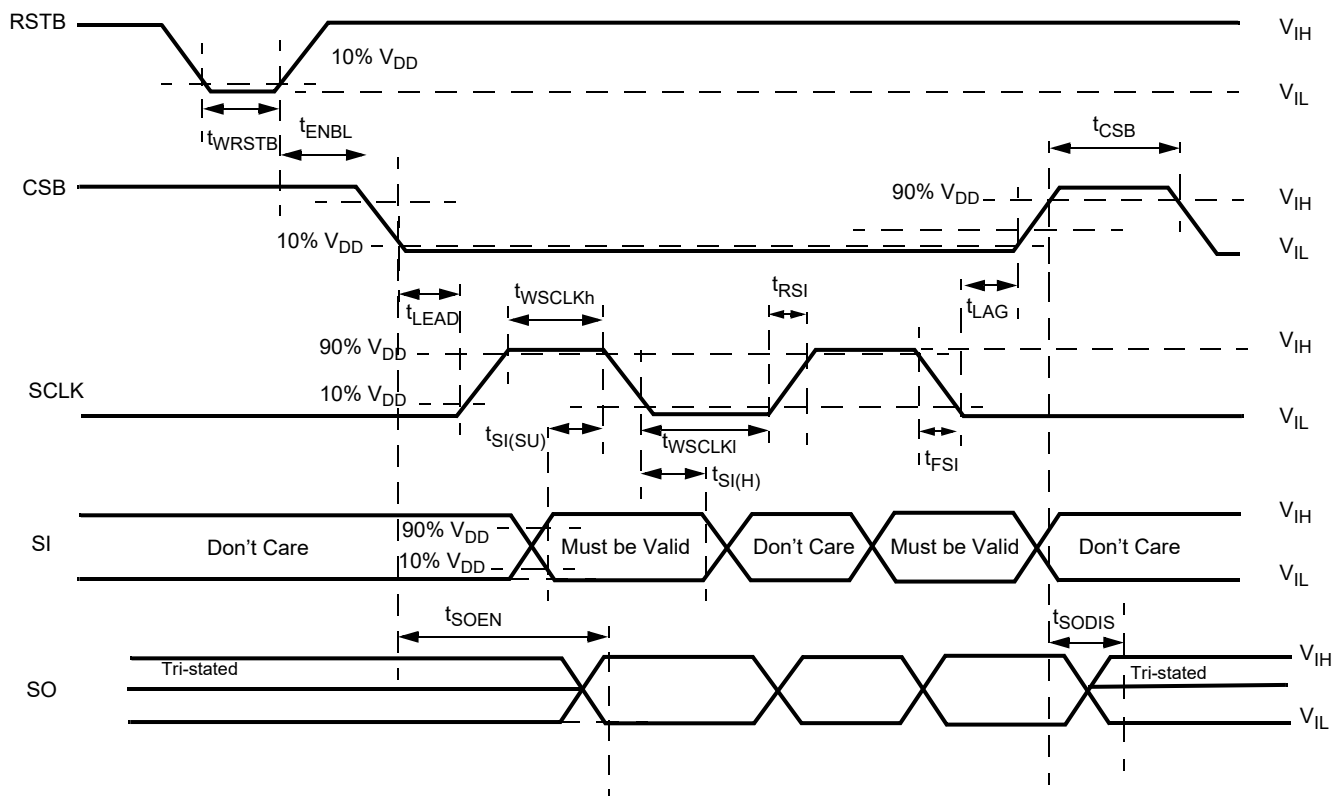
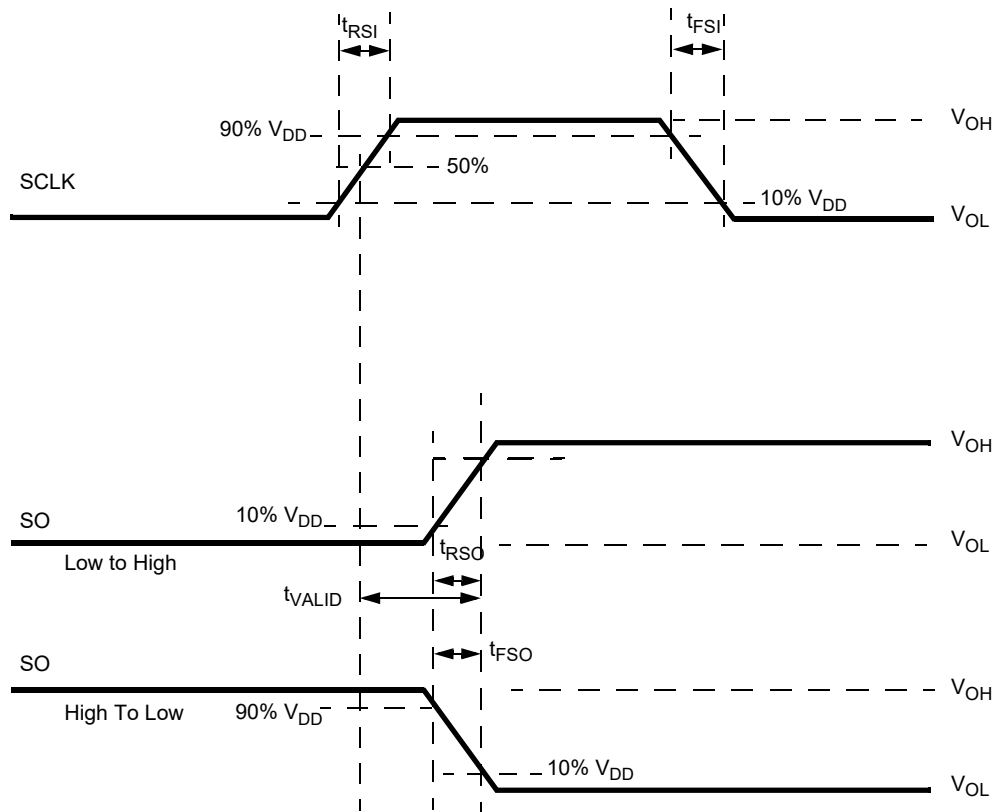

Figure 7. Timing requirements during SPI communication
Figure 8. Timing diagram for Serial Output (SO) data communication
Data communication over the SPI port is enabled when the CSB pin is in the logic [0] state. Data from the Input Shift registers are locked in the addressed SI registers on the rising edge of CSB. The device transfers the contents of one of the eight internal registers to the SO register on the falling edge of CSB. The SO output driver is enabled when CSB is logic [0]. CSB should transition from a logic [1] to a logic [0] state only when SCLK is at logic [0] (Figure 7 and Figure 8). CSB is internally pulled up to V_{DD} through I_{UP} .
5.2.10 Serial input (SI)
Serial input (SI) data bits are shifted in at this pin. SI data is read on the falling edge of SCLK. 16-bit data packages are required on the SI pin (see Figure 7), starting with bit D15 (MSB) and ending with D0 (LSB). All the internal device registers are addressed and controlled by a 4-bit address (D9-D12) described in Table 14. Register addresses and function attribution are described in Table 15. The SI pin is internally connected to a pull-down current source, I_{DWN} .